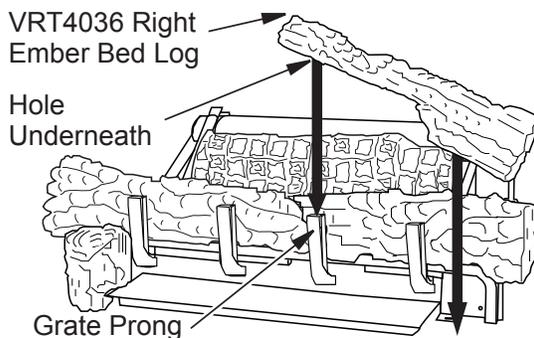

Figure 31 - Installing Right Ember Bed Log
- The VRT4032 and VRT4036 use two different right ember bed logs. The VRT4032 right ember bed log is installed in the same manner as the log in step 3 above but on the right side. The VRT4036 right ember bed log has a hole in the bottom that sets on the grate finger and the other end rest on the fireplace floor, place log as shown in **Figure 31**. The back side of this log needs to rest against the front of the base assembly, make sure the flame from the ember pan does not touch the ember bed log.